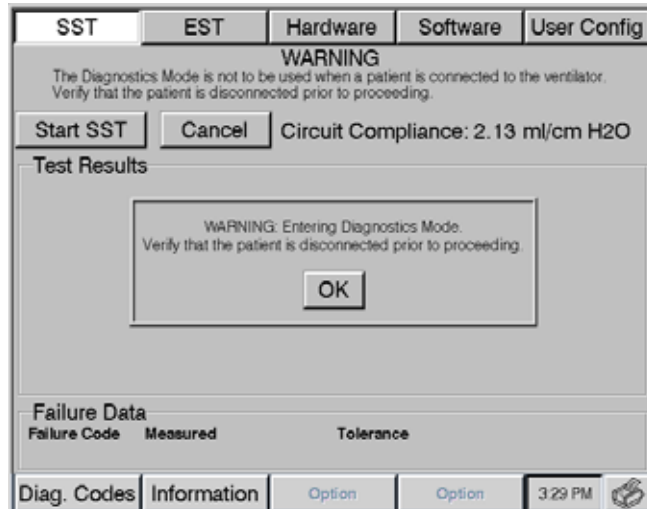

Figure 8-37: Entering Diagnostic Mode
5. Hold down the ALARM RESET and 100% O₂ keys while the ventilator is powered up. The operator must confirm that the machine should be in Diagnostic Mode (Figure 8-37).